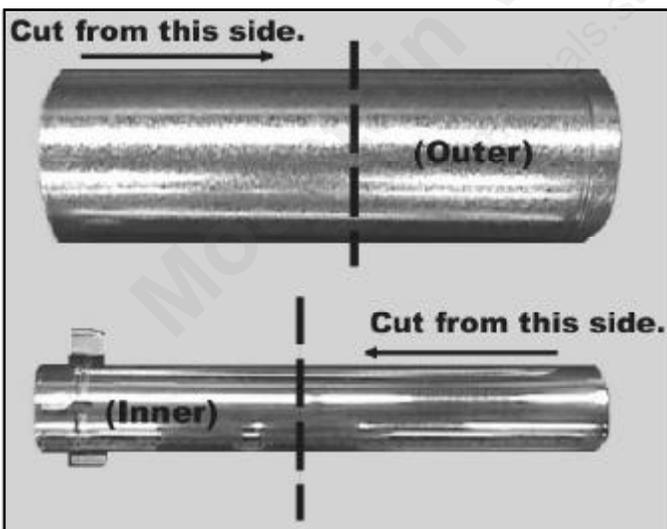

Figure 17. Cut to length
3. Assembling Minimum Installation (MI) Sections
MI sections are non-unitized so that they can be cut to a certain length. To use these sections, they must be cut to length from the non-expanded end (see Figure 17). They can then be attached by first connecting the expanded end of the MI inner flue with the inner flue from the adjacent vent section and securing with (3) screws. The expanded portion of the MI inner flue must overlap completely with the untreated end of the adjacent vent section. The outer flue can then be inserted into the adjacent outer flue expanded end and attached to the next vent section with (3) screws. The other end of the MI vent section can then be attached by fitting a snap lock section to it and snapping it together as normal.